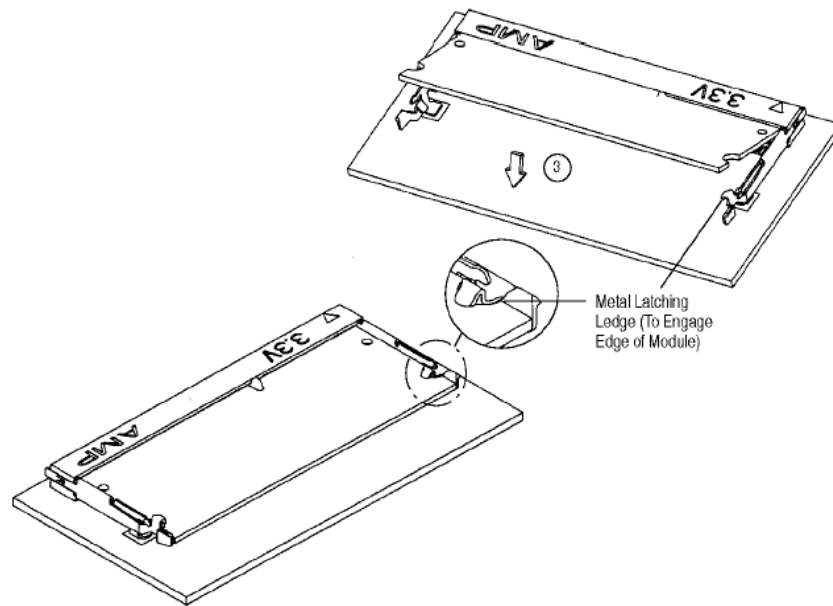

Figure 2: Inserting the module into the development board SO-DIMM connector, step 3
- 3 Push the board down until the module snaps in (see Figure 2).